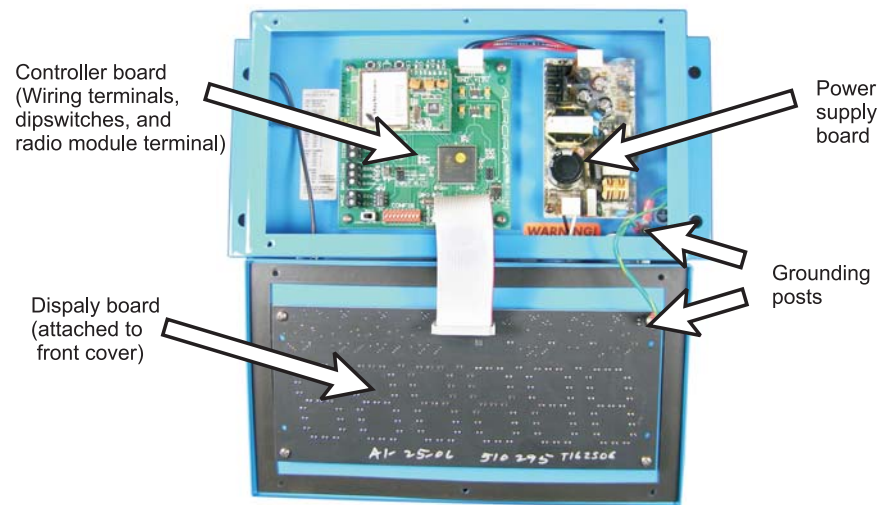

Figure 3.8 XR 2000 enclosure laid open
3. Guide the front panel away from the main enclosure. Be sure to watch the internal cable connections! See Figure 3.8